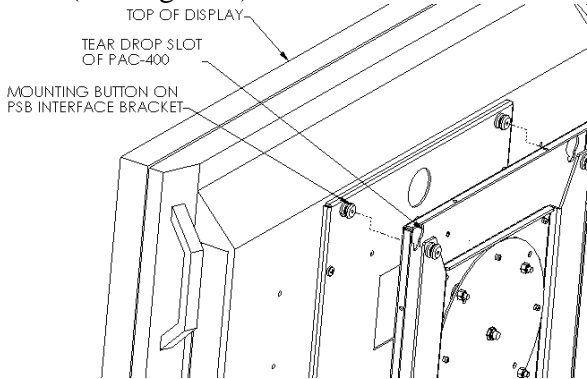

Figure 4
3. Attach CH-SPAC400 to interface bracket by placing the mounting buttons of interface bracket into the teardrop slots of CH-SPAC400. Make sure the mounting buttons are placed securely in teardrop slots. (See Figure 4).